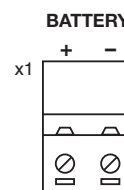

Figure 5
- The unit is equipped with a 12Vdc battery back-up power circuit. If this option is required connect the + and - (positive and negative) battery leads (leads not supplied) (fig 5).